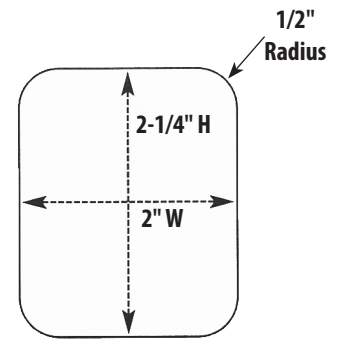

FIGURE 2
3. An alternate way to mount your control is to cut a rectangular hole with rounded ($\frac{1}{2}$ " radius) corners 2 " W x $2\frac{1}{4}$ " H (See Figure 2). This is accomplished by drilling a $\frac{3}{8}$ " hole in the center of the area to be used. This allows access for a saber-saw blade. Note that the control attaches in the corners, so be careful not to cut away mounting areas.